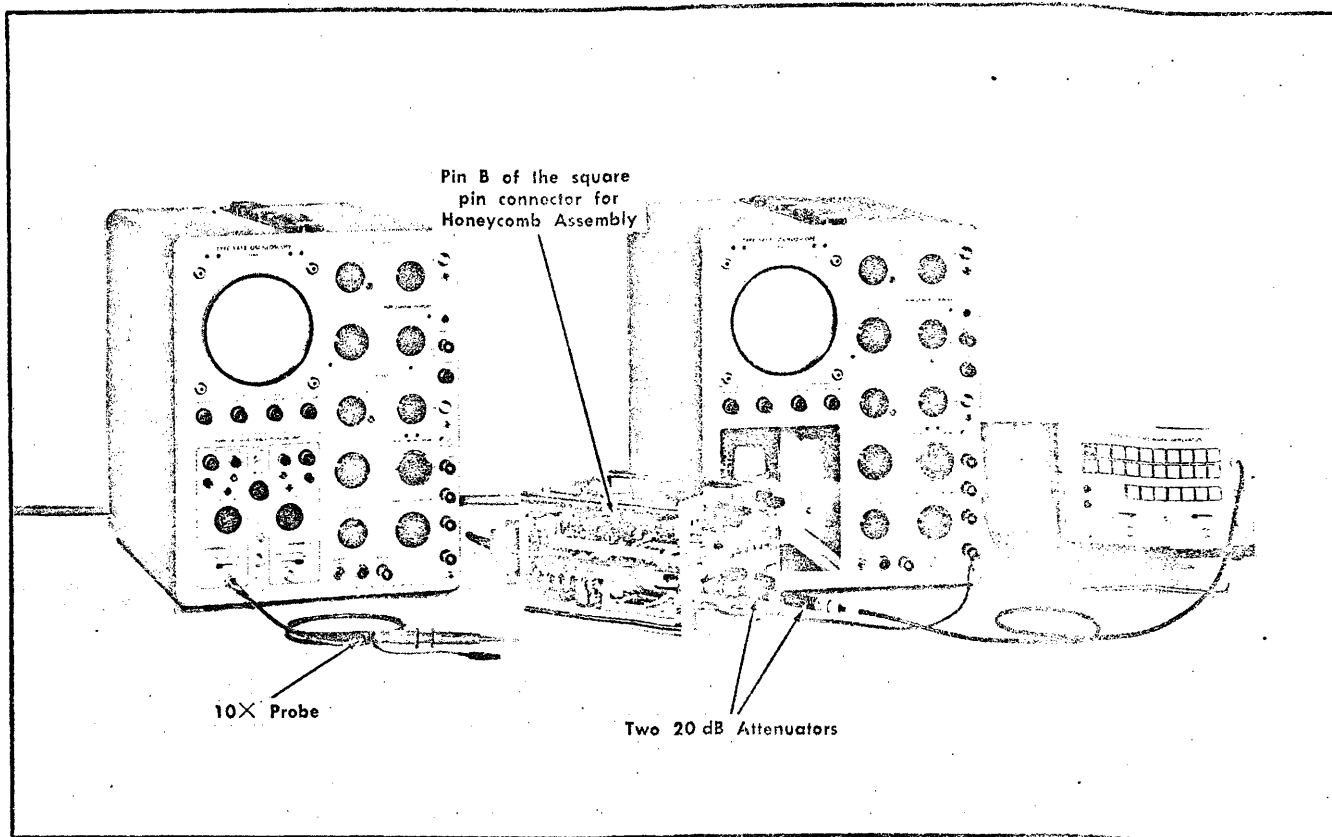

Fig. 6-7. Equipment setup to adjust the IF amplifier response and the resolution bandwidth (steps 4 and 5).
a. Equipment setup is shown in Fig. 6-7.
a. Test equipment setup is given in Fig. 6-7.